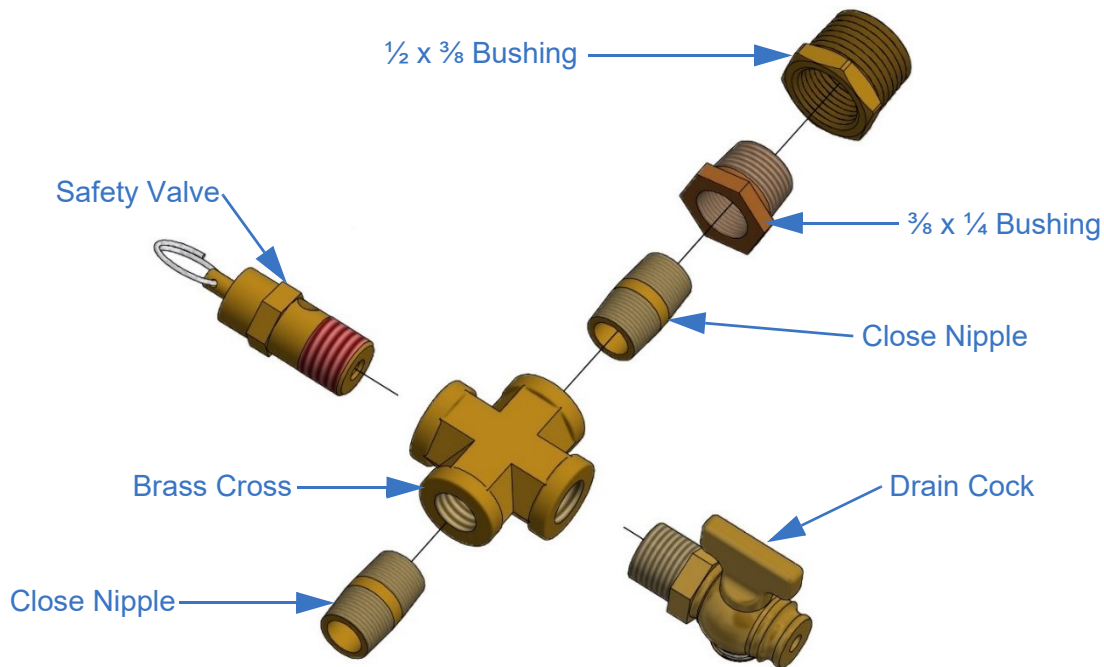

Figure 5-20 Pneumatic System Installation
3. Attach the brass cross to the desired air inlet port with a close Nipple, $\frac{3}{8}$ x $\frac{1}{4}$ bushing, and $\frac{1}{2}$ x $\frac{3}{8}$ bushing (Figure 5-20). Apply PTFE Tape to all threaded joints. If necessary, air hose may be used to connect between the air inlet port and the brass cross, however, the brass cross should be installed as close to the mast as possible to ensure proper drainage.